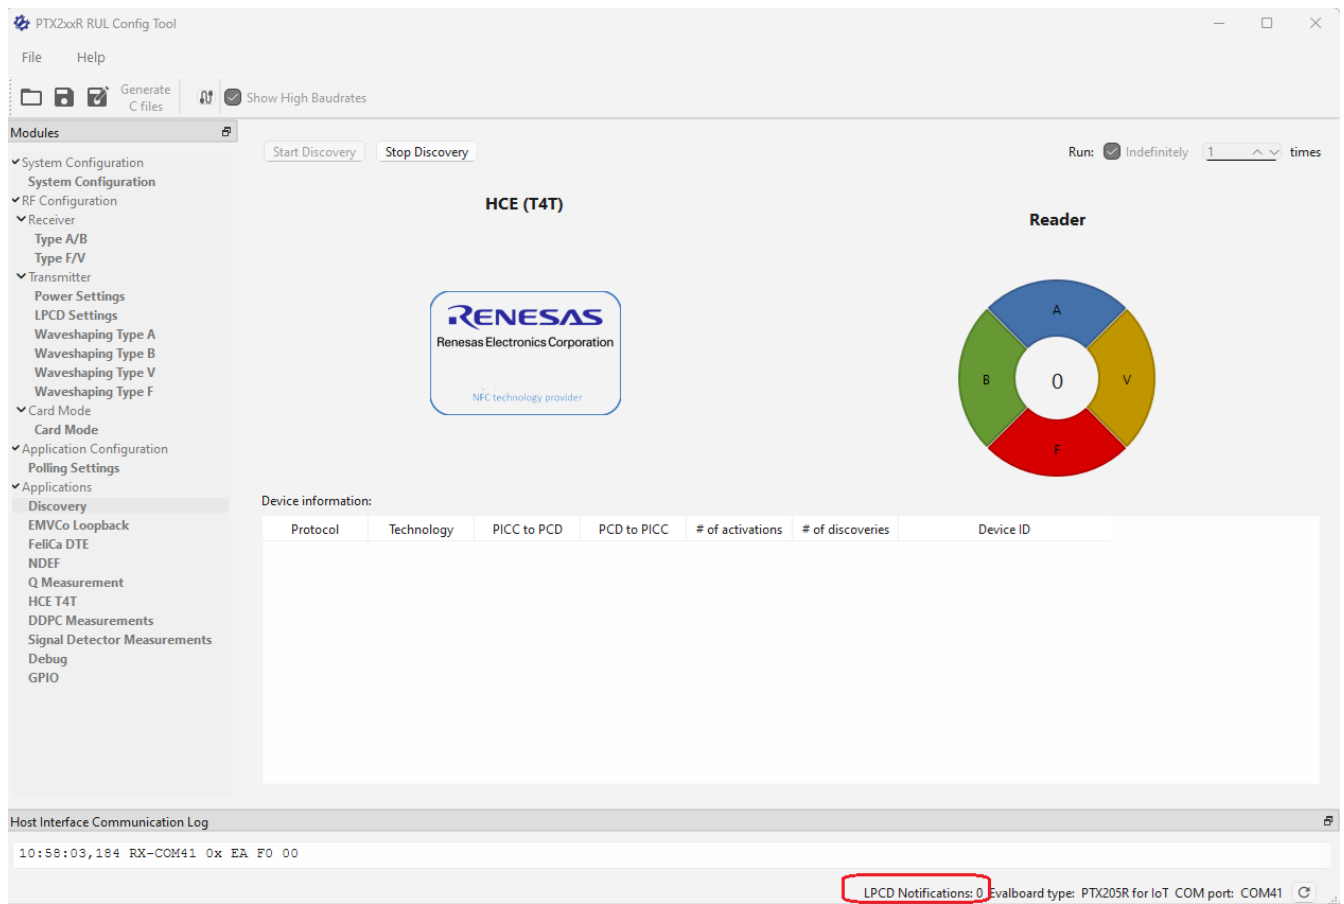

Figure 8. Viewing the Number of LPCD Notifications
- Figure 8. Viewing the Number of LPCD Notifications9